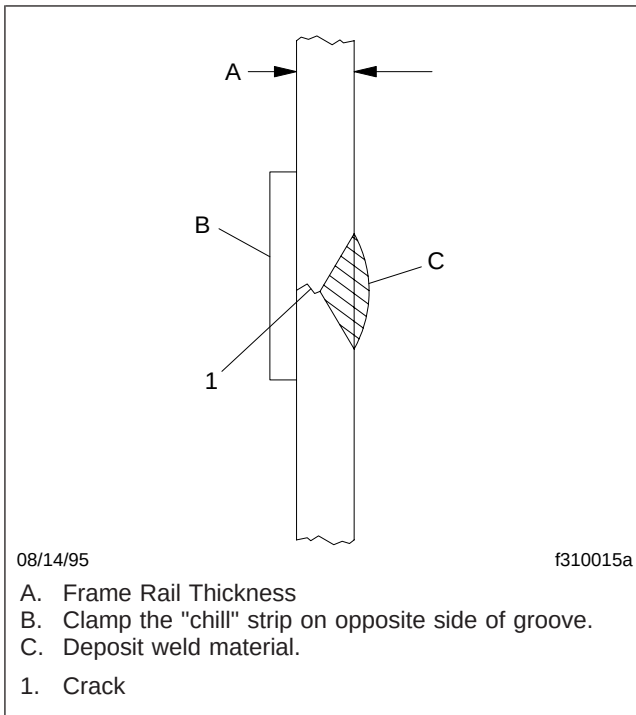

Fig. 4, Using a Chill Strip
3. Clamp a copper or aluminum bar on the opposite side of the groove. The bar will act as a "chill" strip, keeping the heat from spreading to the surrounding area of the frame rail. See Fig. 4.